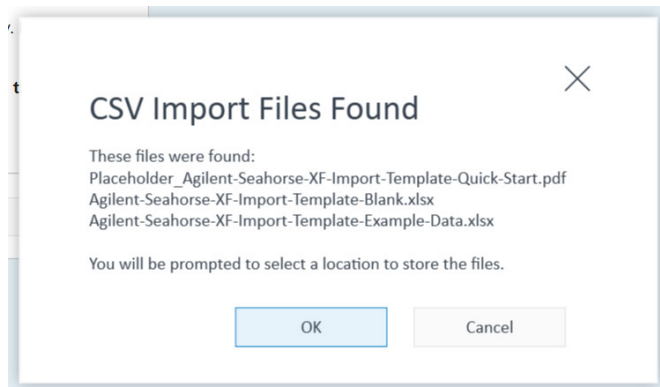

Figure 20. Files found dialog.
- 5 Click **OK** on the **Files Found** dialog (Figure 20).